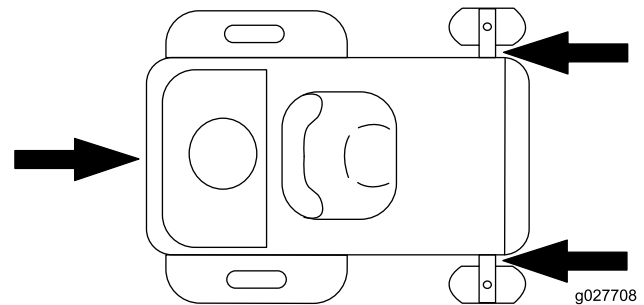

Figure 18
5. Tie down the machine near the front caster wheels and the rear bumper (Figure 18).